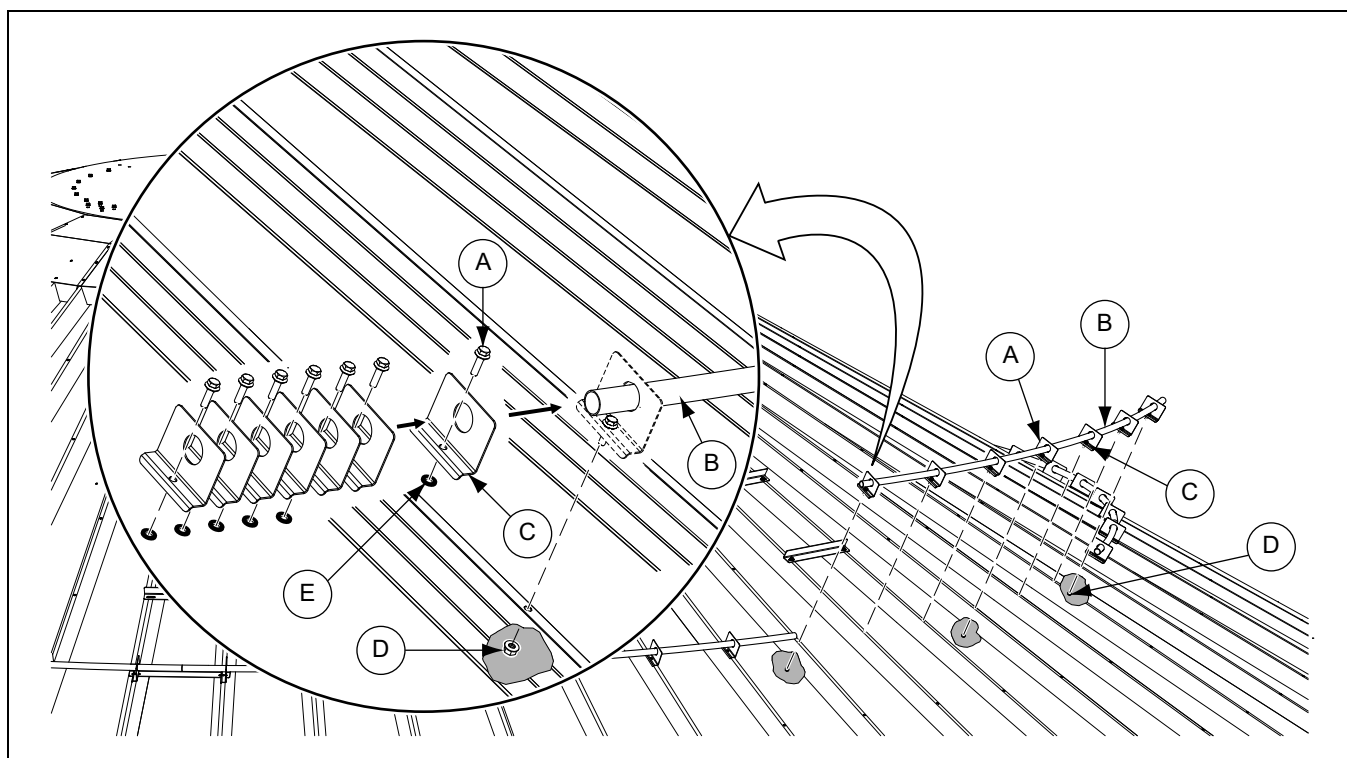

Figure 9U Roof Ring Shown
2. Install a flange bolt (A) to the roof ring clip (C) and install a sealing washer (E) to the underside of the roof ring clip (C).
3. Slide each assembled roof ring clip (C) onto a roof ring section (B) and position each roof ring clip (C) over each roof panel rib.
4. Install a flange nut (D) to each roof ring clip (C). (See Figure 9U.)